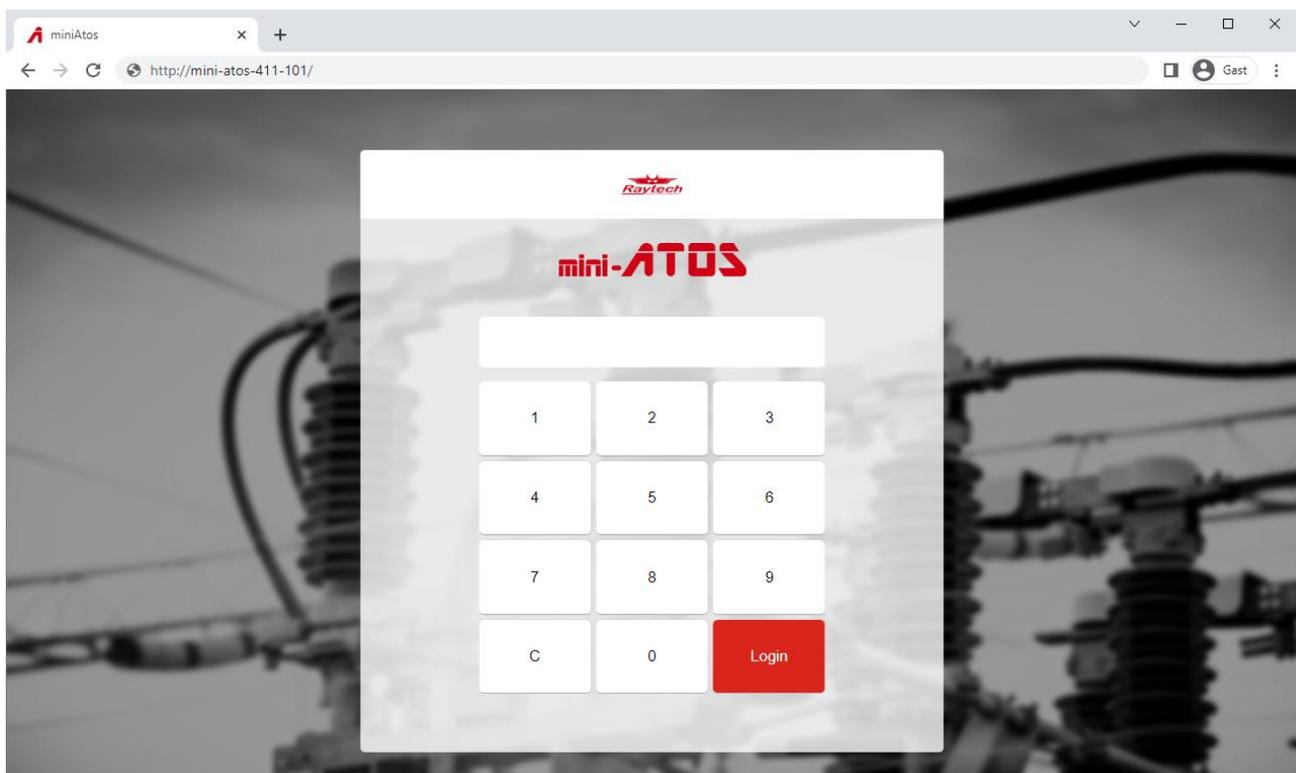

Figure 54: Remote access login page
- 6- Enter the access key and confirm to access the software (Figure 54)